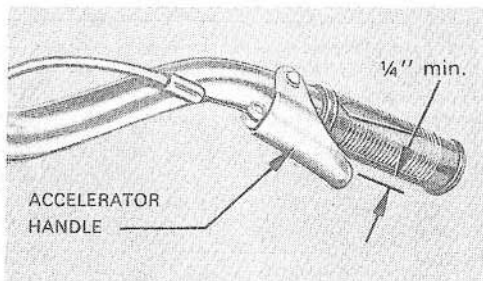

Figure 70
**M5 MAXIMUM THROTTLE OPENING:** When the accelerator handle is pressed down, the throttle should be completely opened before the handle touches the steering bar. If you have to make any adjustments, loosen the throttle cable ferrule and shorten the upper part of the cable. See Fig. 70.